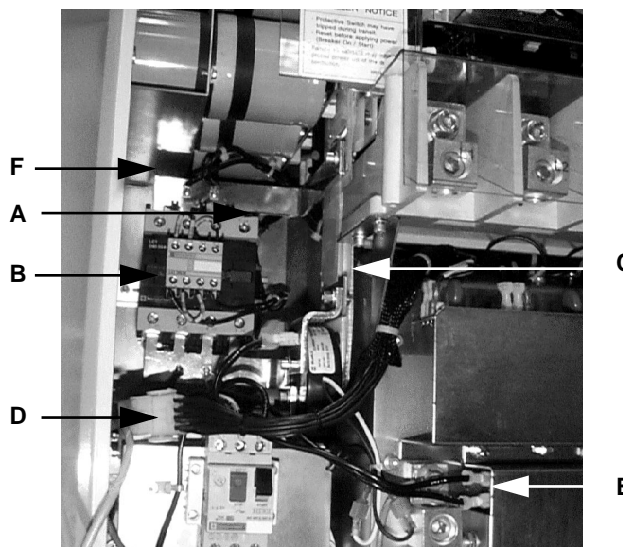

Figure 4.2.44: Removing the Contactor Assembly (ATV66C10N and C13N Drive Controller Illustrated)
4. With a hex key, loosen or remove the screws holding the top precharge contactor bus (A) to the precharge contactor (B), and the screw holding the top precharge contactor bus to the vertical bus (C). Pull the top precharge contact bus out of the way (see Figure 4.2.44 on page 4.2.76).
5. Unplug the P51 connector (D). Disconnect the two wires connected to the filter cap (E) in the fan capacitor assembly. Loosen the door ground wire cable clamp from the contactor assembly (see Figure 4.2.44).
6. Remove the two nuts and washers securing the top of the contactor assembly to the back cover (F in Figure 4.2.44).
18. Install the top precharge contactor bus (A) onto the precharge contactor (B). On ATV66C10N4 to C13N4 controllers, install the four fingers of the bus into the L1–L4 terminals of the contactor. Torque to 100 lb-in (11.3 N•m) On ATV66C15N4 to C19N4 controllers, install the three mounting screws and torque to 63 lb-in (7.1 N•m). Ensure that the two wire assemblies are securely attached to the bus. (See Figure 4.2.44).
19. Secure the top precharge contactor bus to the vertical bus with one screw (**C** in Figure 4.2.44 on page 4.2.76). Torque the screw to 63 lb-in (7.1 N•m).
21. Reattach the cables from the lower precharge contactor bus and the current transformer bus to the filter cap (**E** in Figure 4.2.44). Make sure they are mounted on opposite capacitor terminals.
22. Reattach the P51 connector (**D** in Figure 4.2.44).